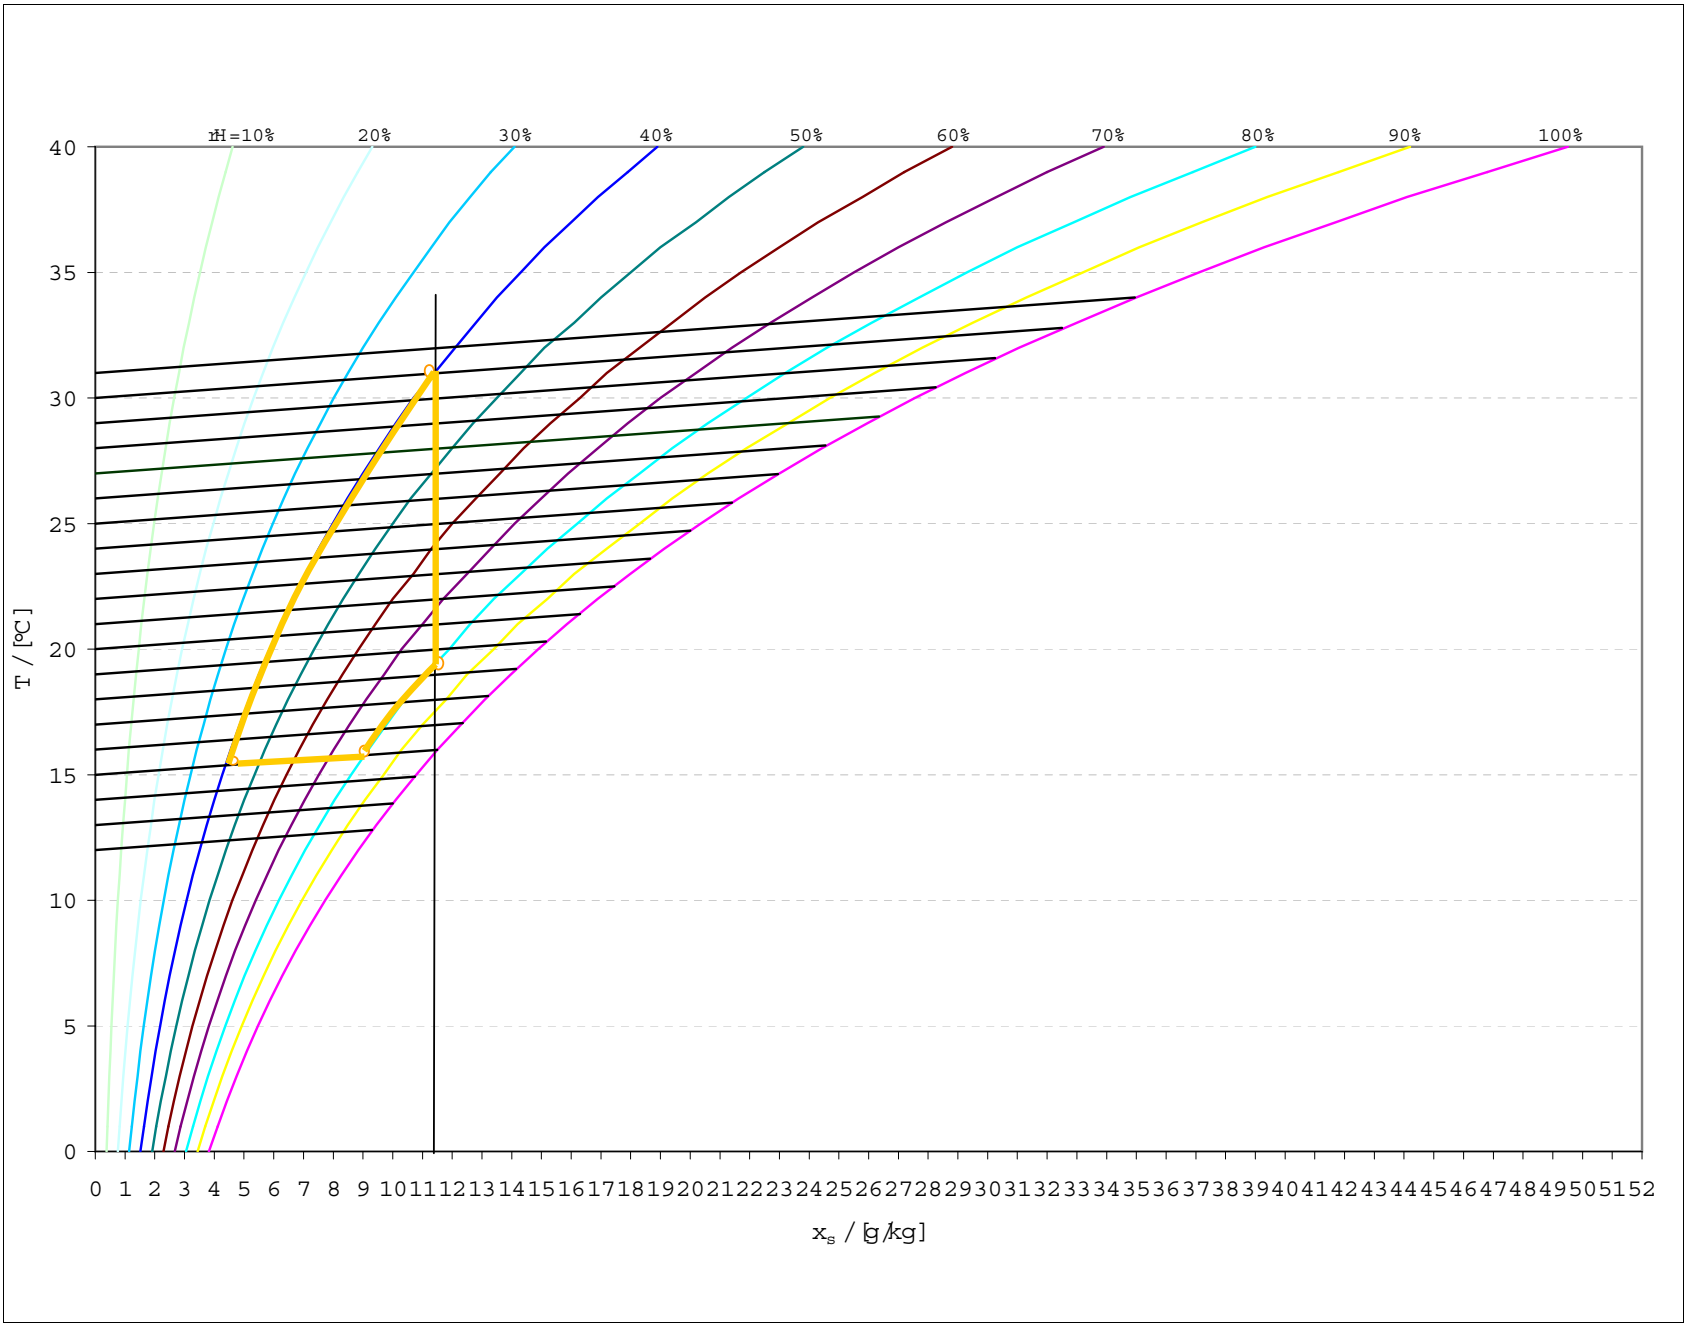

Fig. 1 Møller
2. See scale Fig. 1 at a relative humidity of 12.0g/kg